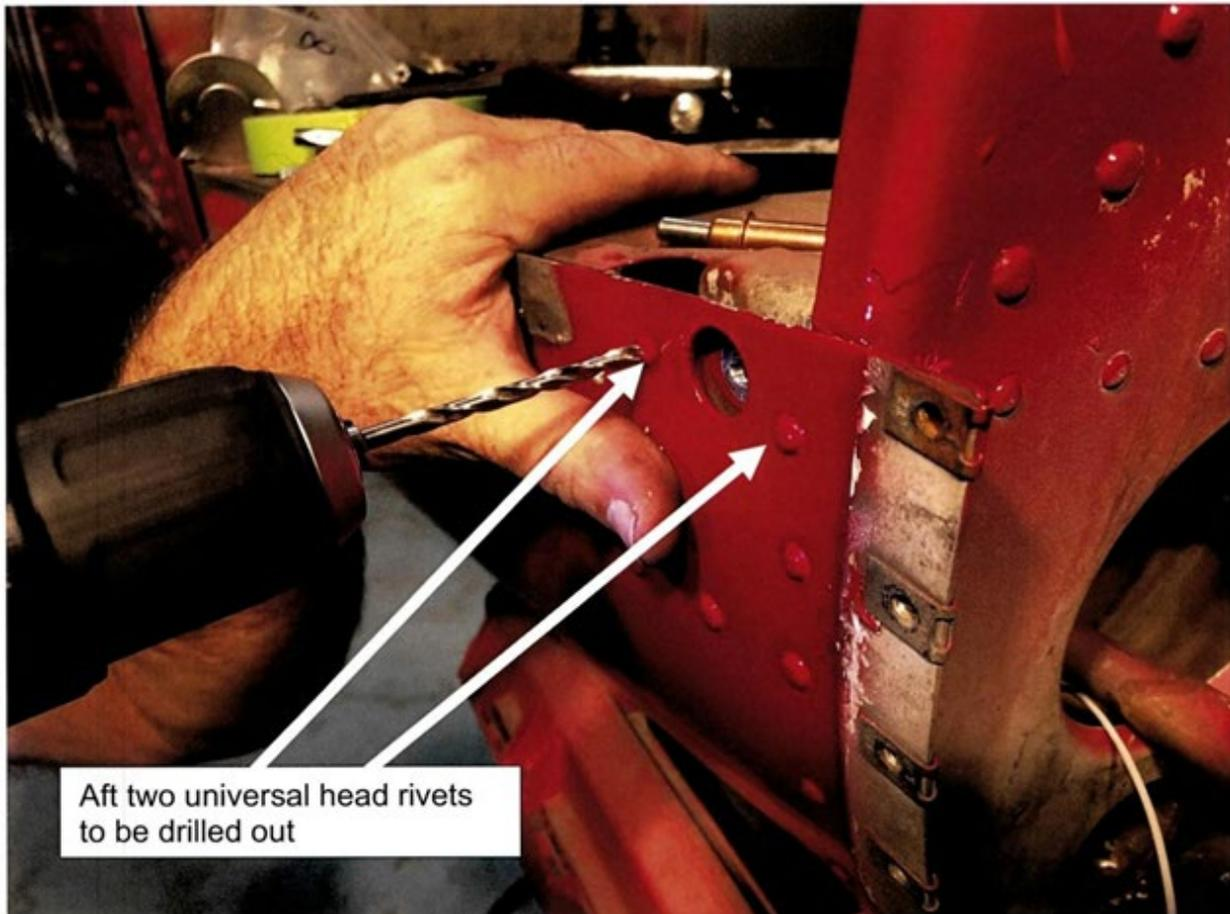

Figure 9: Drill out aft two AN470AD-4 rivets
3. Drill out the far aft (2) AN470AD-4 (large universal head) rivets of the tail cone reinforcement angle with a #30 drill bit. Again, be careful not to oblong the rivet holes. You may want to start out with a smaller #40 drill bit and then work your way up to a #30 drill bit. See Figure 9.